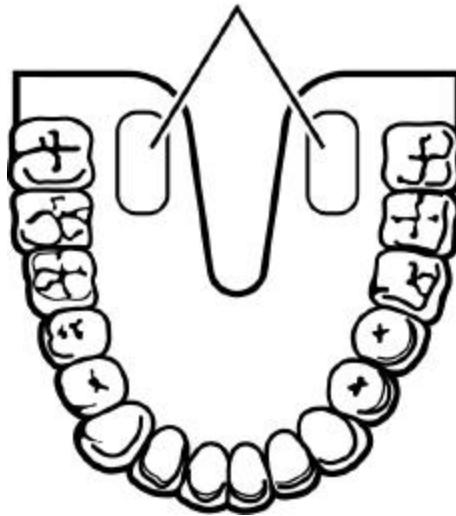

FIGURE 9
- 4) When a double dash “--” appears in the TEMP display window, the temperature sensor is ready to take a measurement. To take a normal predictive temperature, simply insert the probe tip gently into the patient’s slightly opened mouth. Carefully slide the probe under the tongue on either side of the mouth to reach the sublingual pocket. Refer to Figure 9.